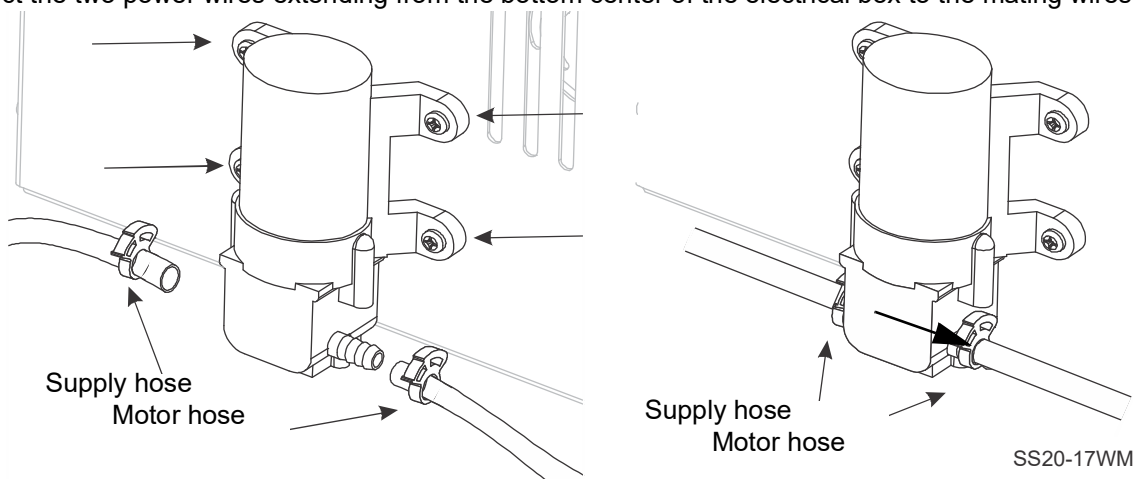

FIG. 2-4
4. Ensure that the hoses are well seated and secure on the fittings. See FIG. 2-4